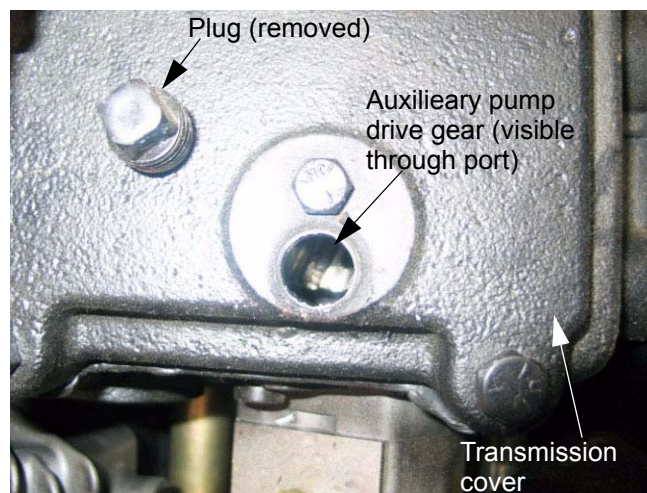

Figure 6.14
- 6.14. The auxiliary pump drive gear should be visible through the hole. See Figure 6.14.